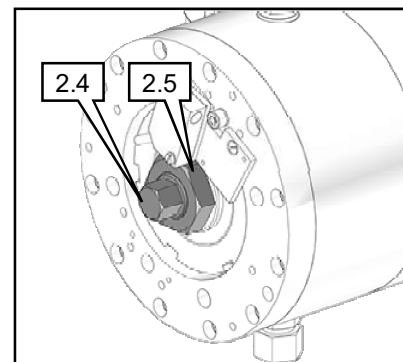

Fig. 17:
- Push cylinder (2.11) onto inner piston (7).
- Note dimension $X=1\text{ mm}$ (Fig. 17).